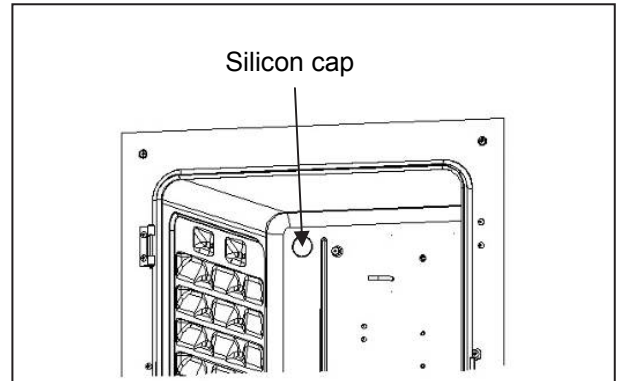
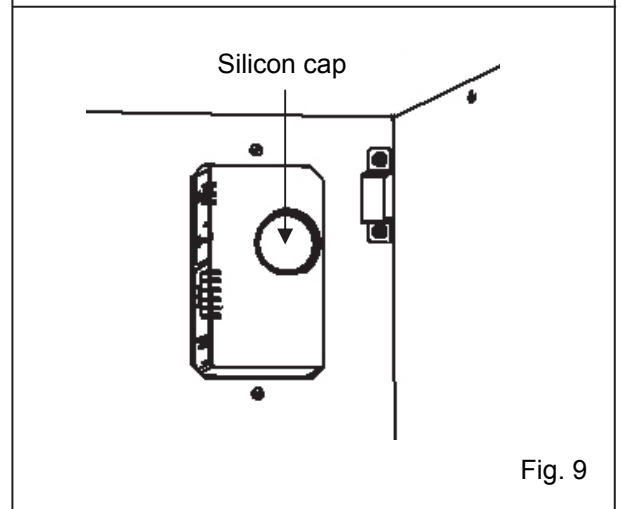

Fig. 8
Fig. 9
9. Remove the silicon caps of each access port from interior (Fig. 8) and exterior (Fig. 9).